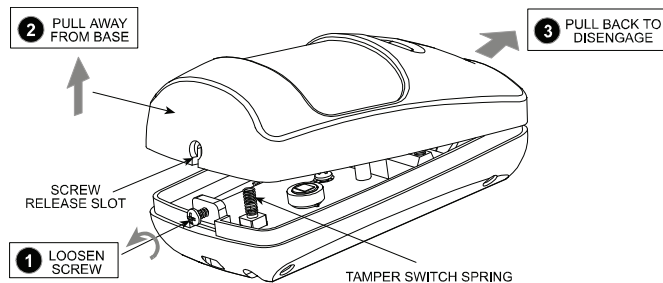

Figure 3. Cover Removal
A. Remove the front cover as shown in Figure 3.
- Remove the front cover as shown in Figure 3.